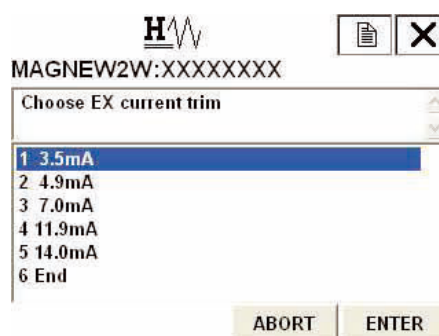

Figure 7-68
2. Once the display as shown in Figure 7-68 appears, move the arrow key up or down to select an excitation current to adjust, and then press F4 (ENTER). This time, select 3.5 mA.